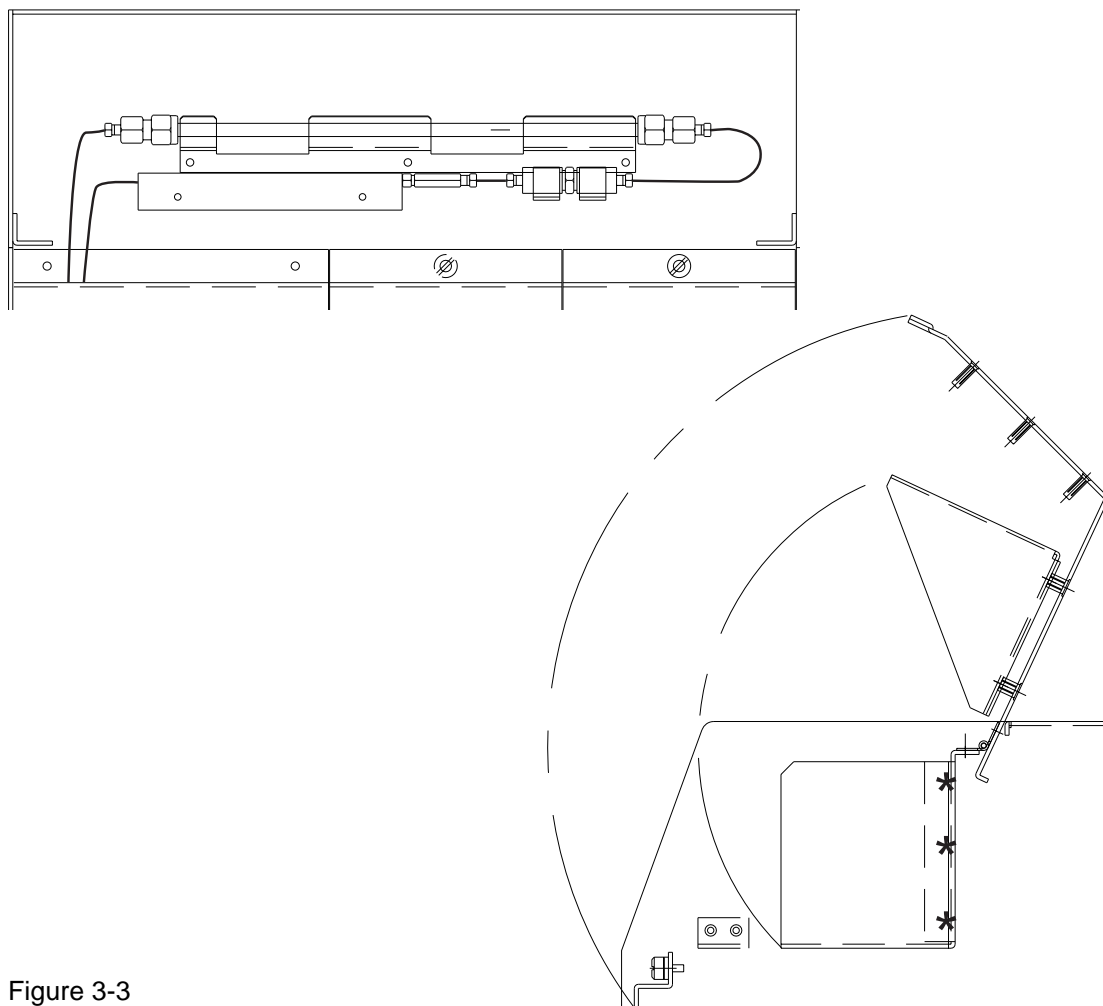

Figure 3-3
1. A set of PEEK tubing is provided in the Application Kit for installing your Pickering column. Select the column that you wish to install, and the corresponding tubing set. Refer to Figure 3-3 for column placement and door operation.